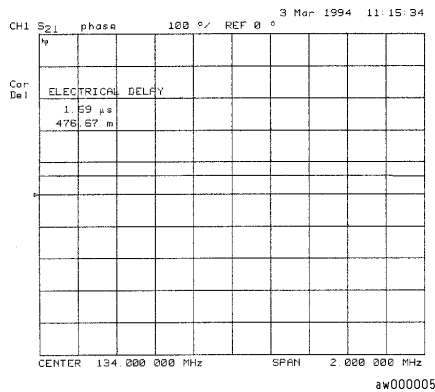

Figure 4-11. Example Best Flat Line with Added Electrical Delay
- 8 Turn the front panel knob to increase the electrical length until you achieve the best flat line, as shown in Figure 4-11.